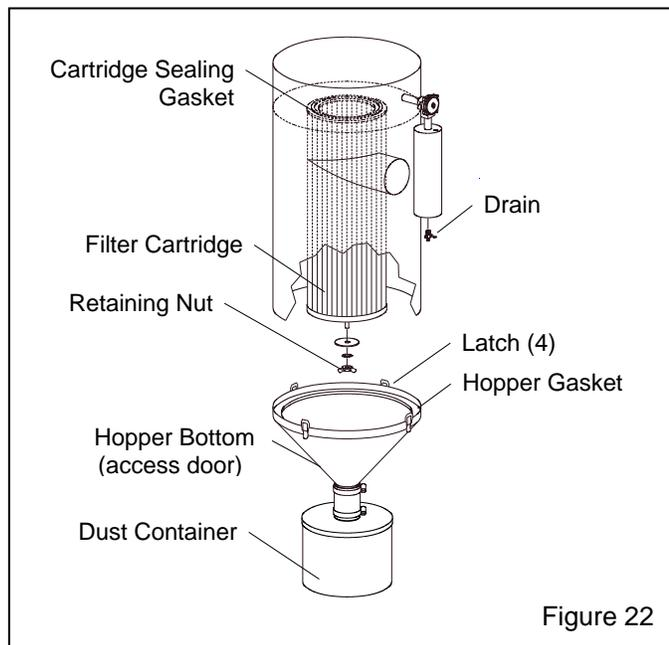

Figure 22
7.7 Filter Cartridge Replacement, Figure 22